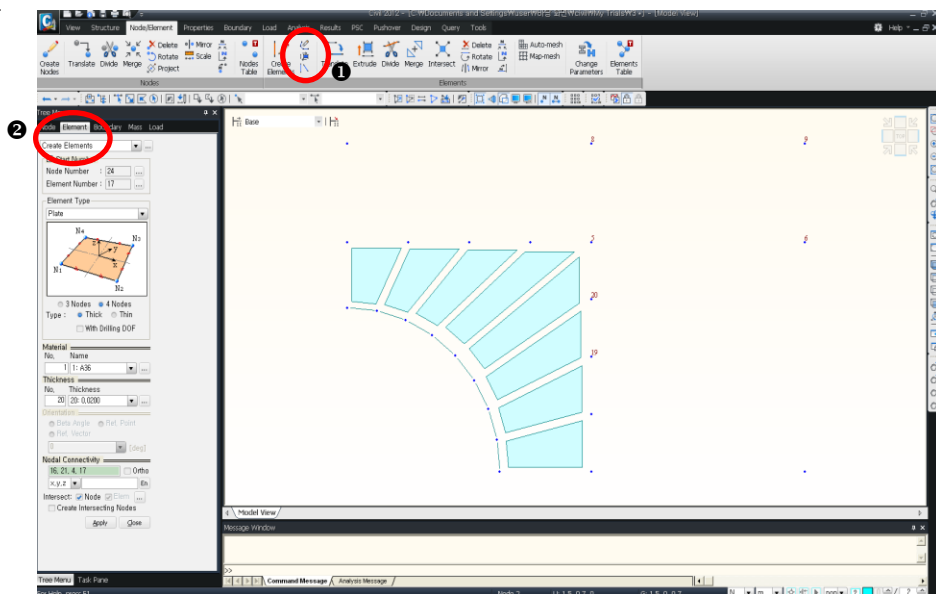

Figure 3.5 Generation of Plate Elements around the Circular Opening
1. Select the **Element** tab, then **Create Elements** from the Tree Menu or select **Node/Element** >  **Create Elements** from the Main Menu (Fig.3.5—① and ②).